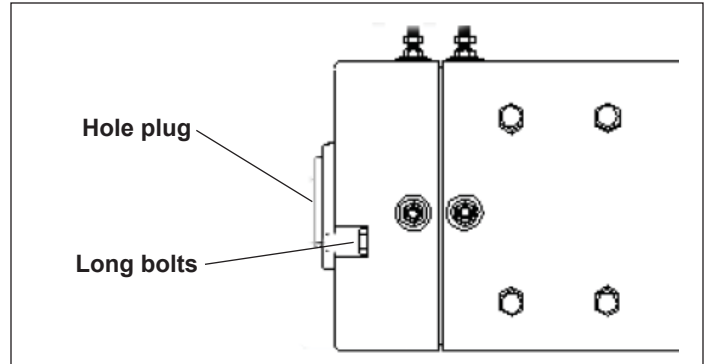

Figure 10-3. Traction Motor Hardware
- Remove long bolts. Remove motor head hole plug. See Figure 10-3.